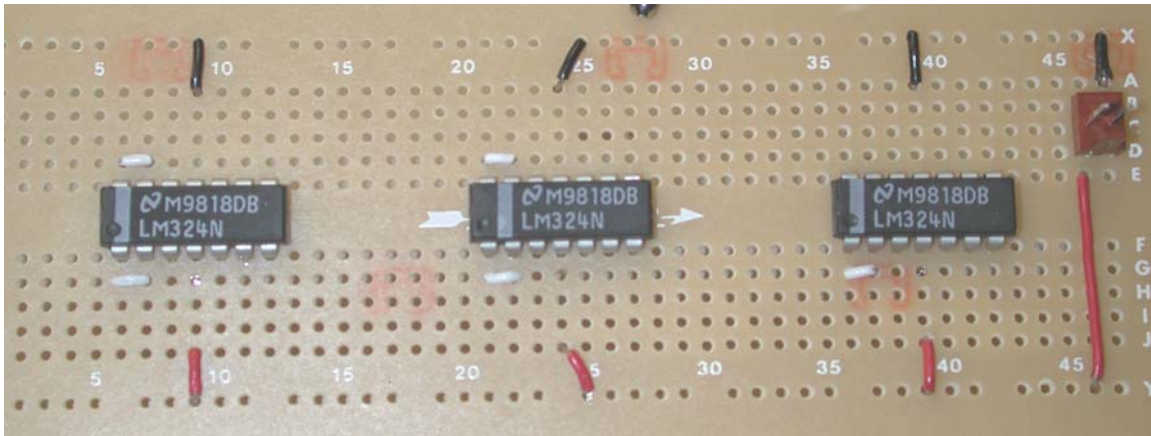

Figure 3: Chip placement, power buses, and buffer feedback
- As shown in Figure 3, the three chips should be evenly spaced on the board. The pins 1 and 14 were placed in column 6, 21, and 36 for the three chips.
- Figure 3 also shows the power supply for the circuit in the upper right corner. Notice the leads extending from the Molex header to the bottom and top rows that establish the positive and negative buses.